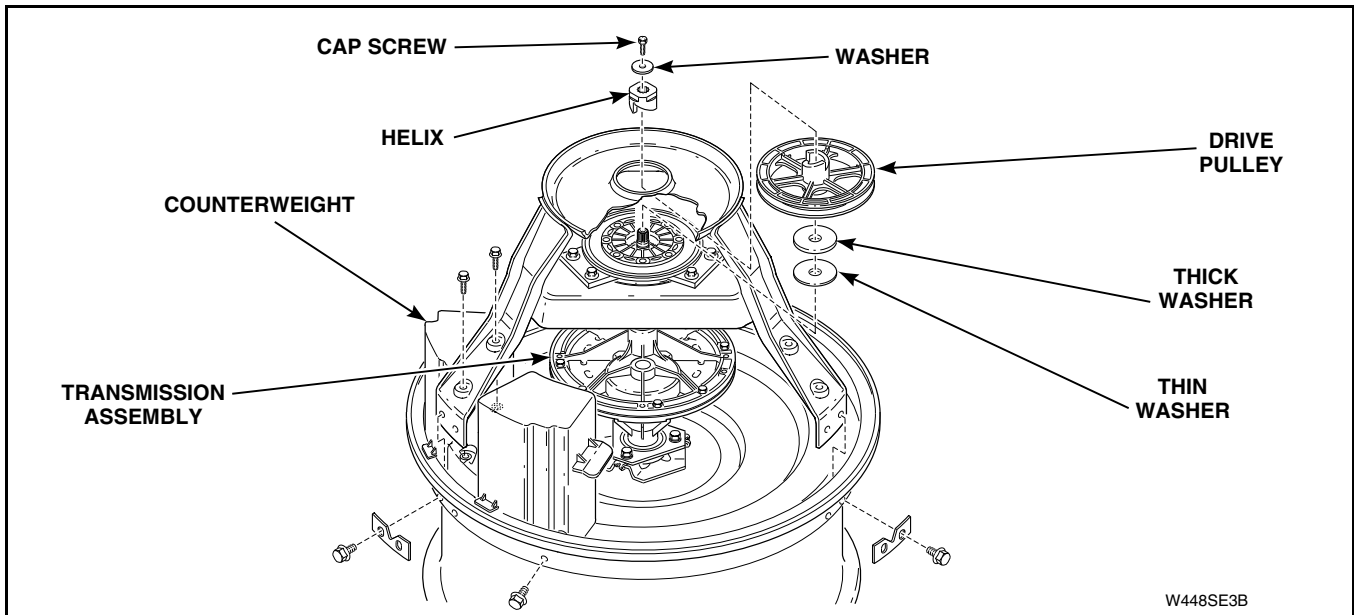
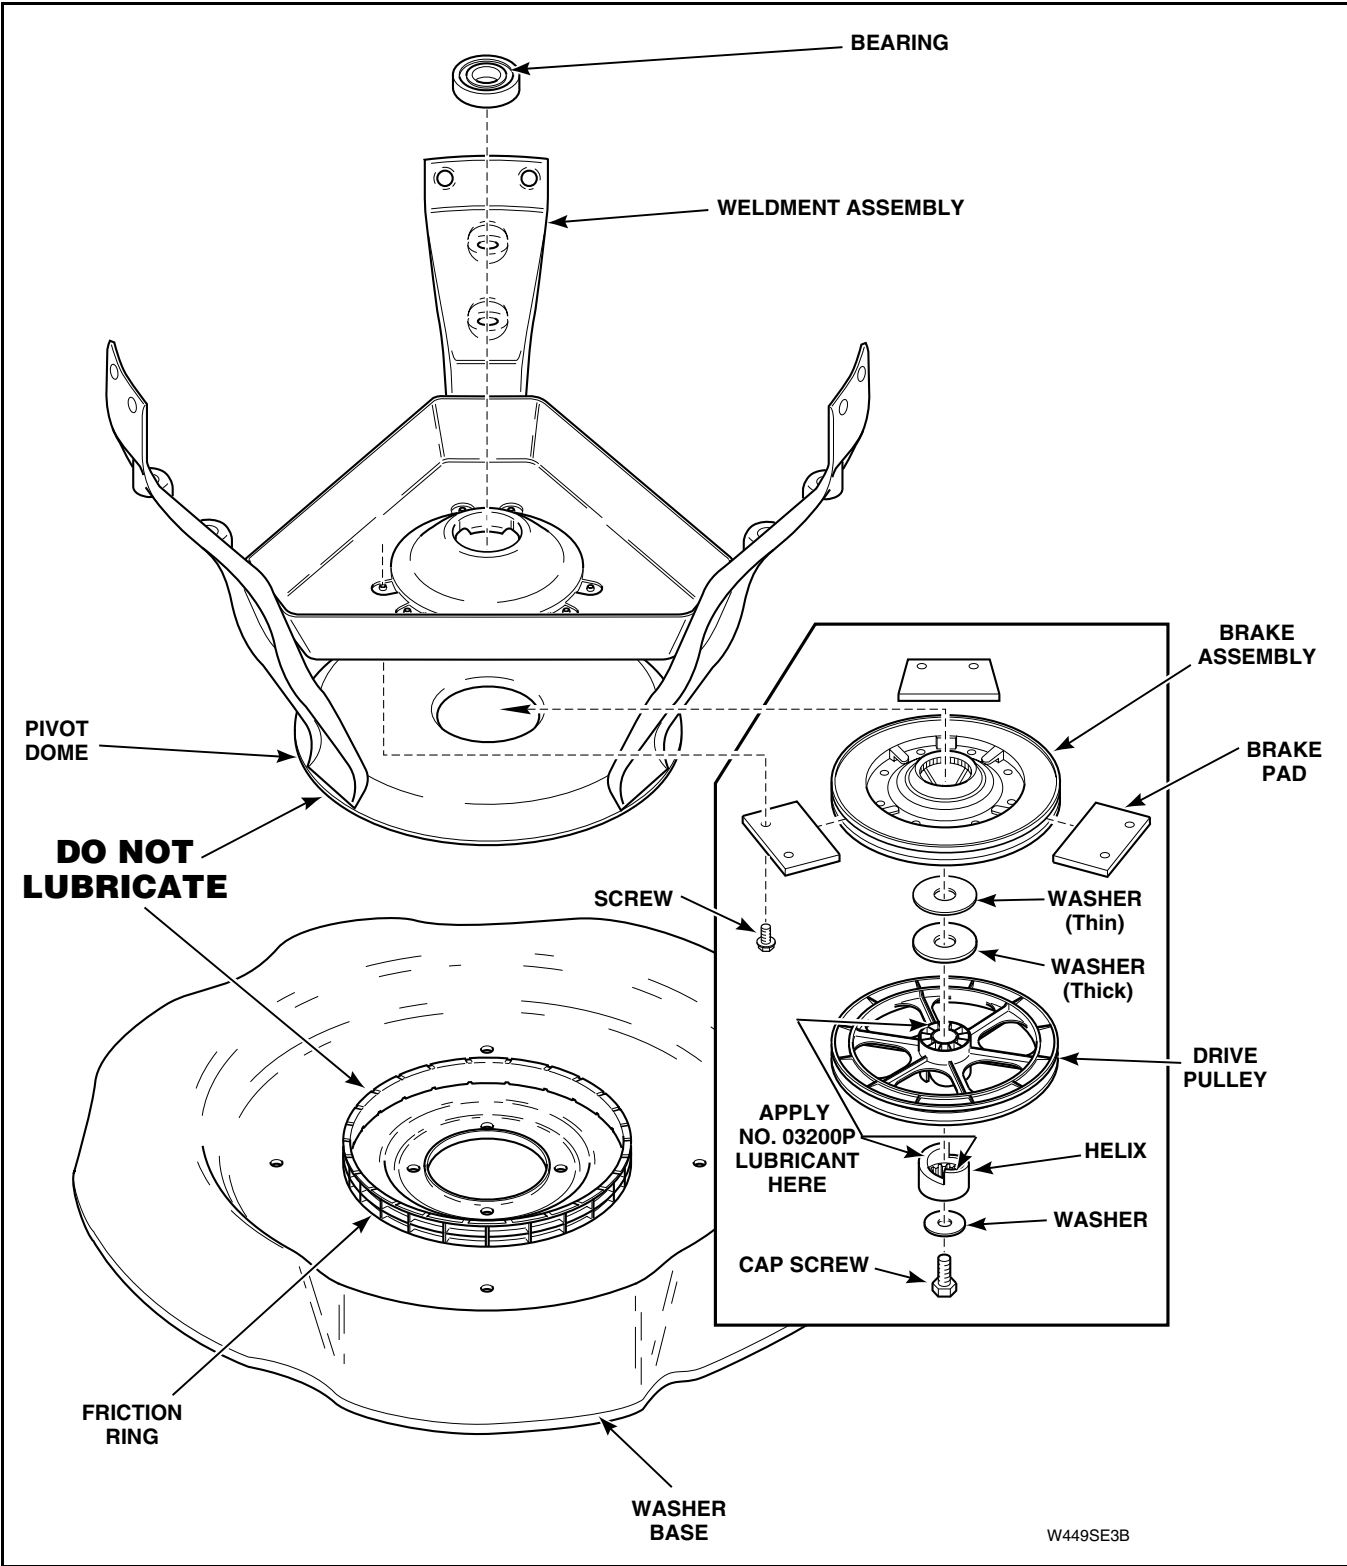

Figure 55
Figure 56
- q. Remove screw, washer and helix holding drive pulley to input shaft and transmission assembly. Refer to *Figure 55*.
NOTE: When reinstalling pulley, place a small amount of No. 03200P Lubricant on top side of the drive pulley that will be contacting large flat washers. Refer to *Figure 55* for assembly sequence. Lubricate helix ramps and bore with a small amount of No. 03200P Lubricant. Refer to *Figure 56*.
- s. Remove screws holding three brake pads and brake assembly to weldment assembly. Refer to *Figure 56*. Then remove brake assembly and pads off bottom of weldment assembly.
NOTE: Refer to *Figure 56* for assembly sequence.
- q. Remove screw, washer and helix holding drive pulley to input shaft and transmission assembly. Refer to Figure 55.
NOTE: When reinstalling pulley, place a small amount of No. 03200P Lubricant on top side of the drive pulley that will be contacting large flat washers. Refer to Figure 55 for assembly sequence. Lubricate helix ramps and bore with a small amount of No. 03200P Lubricant. Refer to Figure 56.
- s. Remove screws holding three brake pads and brake assembly to weldment assembly. Refer to Figure 56. Then remove brake assembly and pads off bottom of weldment assembly.
- u. Remove screws and lockwashers holding counterweight and each support leg to outer tub. Refer to *Figure 55*. Then lift weldment assembly and counterweight off tub.